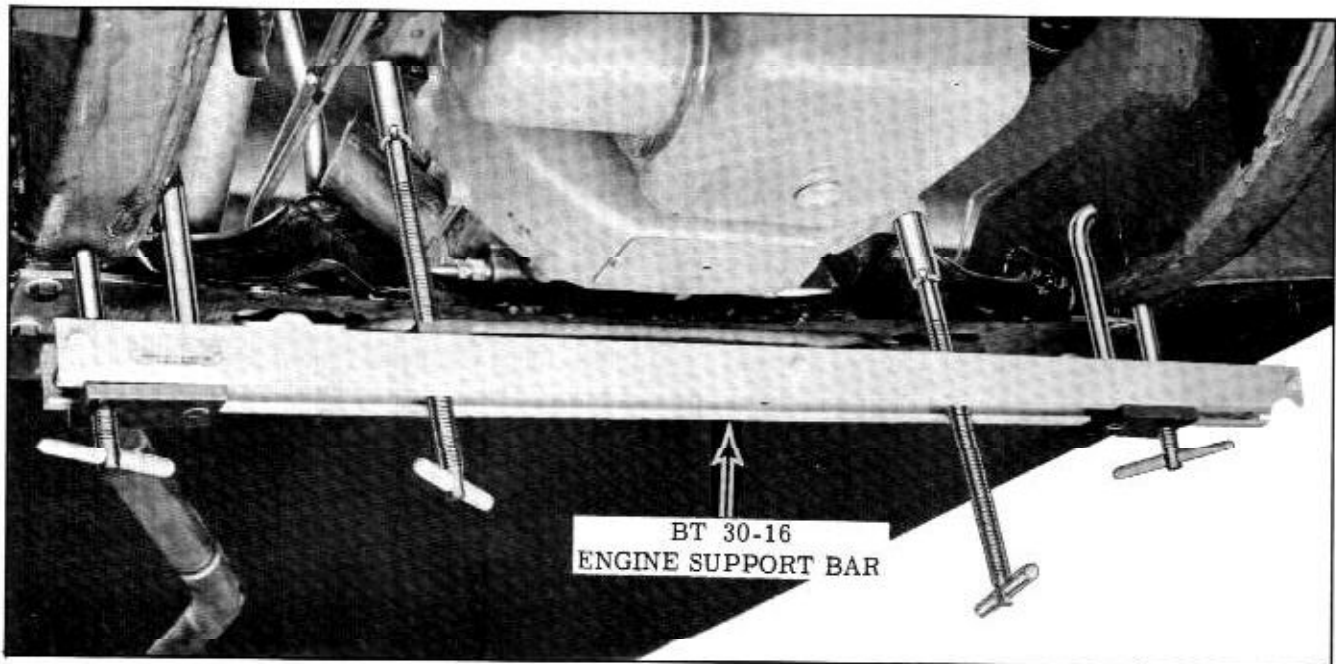

Fig. 3-23 Engine Support Bar
5. Install engine support bar. (Fig. 3-23)